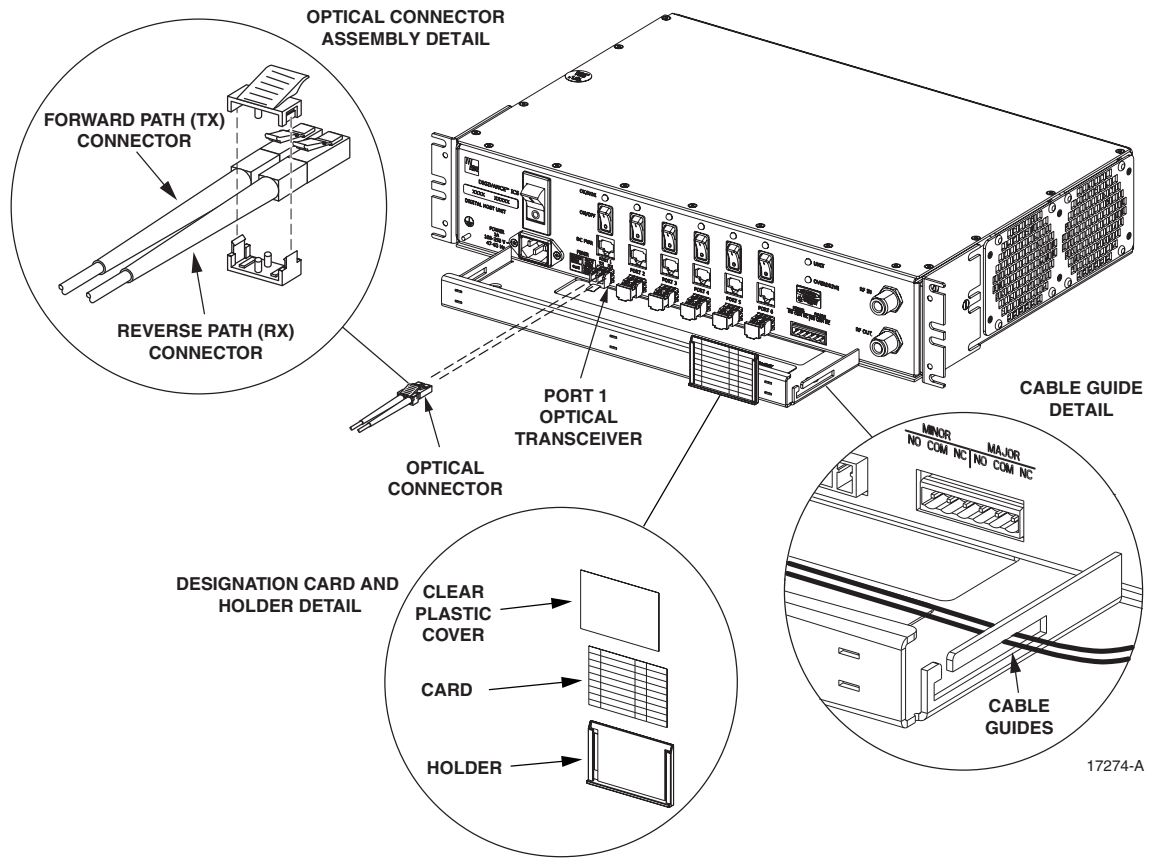

Figure 19. Ports 1-6 Fiber Optic Cable Connections
3. Terminate each optical fiber with a field-installable LC type fiber optic connector as shown in Figure 19. Follow the instructions provided by the connector manufacturer for installing the connector.
6. Use the plastic joiner provided with the LC connectors to join the DHU Port 1 forward and reverse path connectors together (see Figure 19). Make sure the **forward path** and **reverse path** connectors are oriented as shown.
8. Clean each connector (follow connector supplier's recommendations) and then insert the optical fiber connector pair into DHU optical port 1 (see Figure 19).
9. Place the optical fibers within the cable guides provided on the cable management tray (see Figure 19) and then dress and secure the fibers at the DHU per standard industry practice.
11. Use the designation card provided (see Figure 19) to indicate the location and name of the DRU or DEU that is connected to each optical fiber pair. The designation card holder may be attached to any convenient flat surface such as the DHU cable management tray